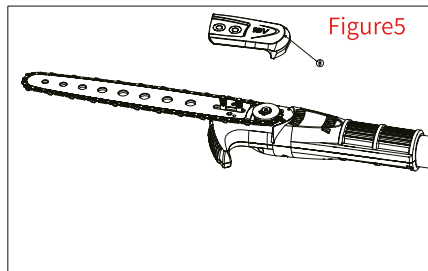

Figure5
- (6) In Figure. 5, the chain cover ⑧ is equipped with the bar fixing bolt;